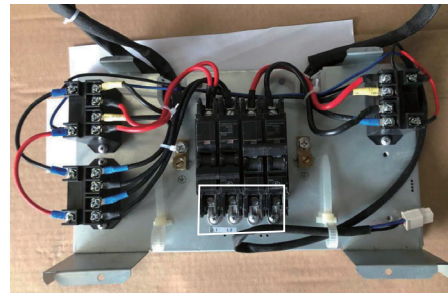

Fig. 30 — Choose the power cord installation location
11. Power Wiring should be sized in accordance with NEC (CEC) requirements and local codes (see Table 6 on page 11). Choose the power cord and the power cord installation location (see Figure 30). Each circuit breaker group needs to connect to the power input line. Where needed, Jumper L1 and L2 to the terminals for the other contactor.